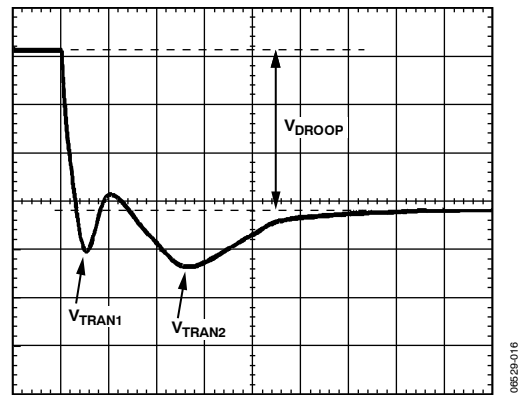
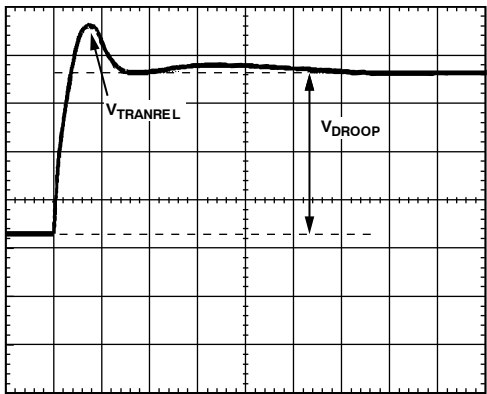

Figure 15. Transient Setting Waveform
Figure 16. Transient Setting Waveform
17. With the dynamic load still set at the maximum step size, expand the scope time scale to see 2  $\mu$ s/div to 5  $\mu$ s/div. The waveform may have two overshoots and one minor undershoot (see Figure 15). Here,  $V_{DROOP}$  is the final desired value.
19. For load release (see Figure 16), if  $V_{TRANREL}$  is larger than  $V_{TRAN1}$  (see Figure 15), there is not enough output capacitance. Either more capacitance is needed or the inductor values need to be smaller. If inductors are changed, start the design again using the spreadsheet and this tuning procedure.